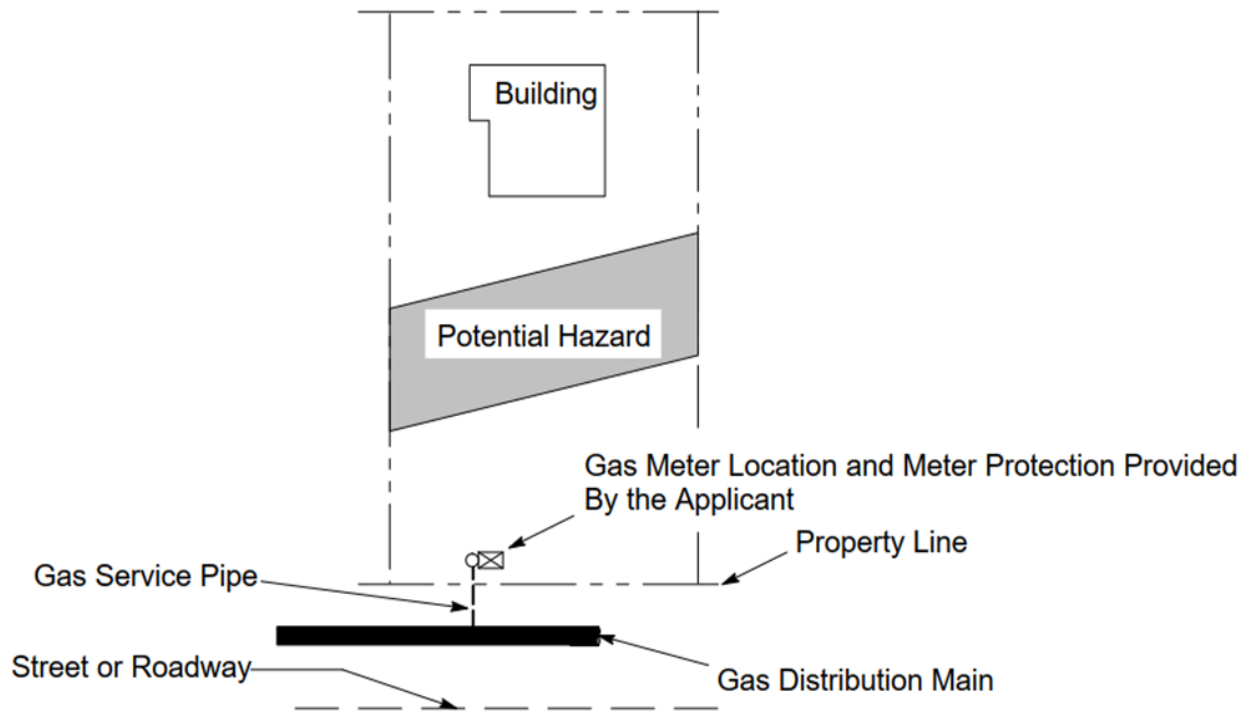

Figure 13. Property Line Installation
- (2) Location at the customer's property line, if a location exists where the meter set can be properly protected from damage by vehicles and anticipated damage. The service and meter set location must be accessible and allow for inspection for and operation and maintenance activities. (See Figure 13.)